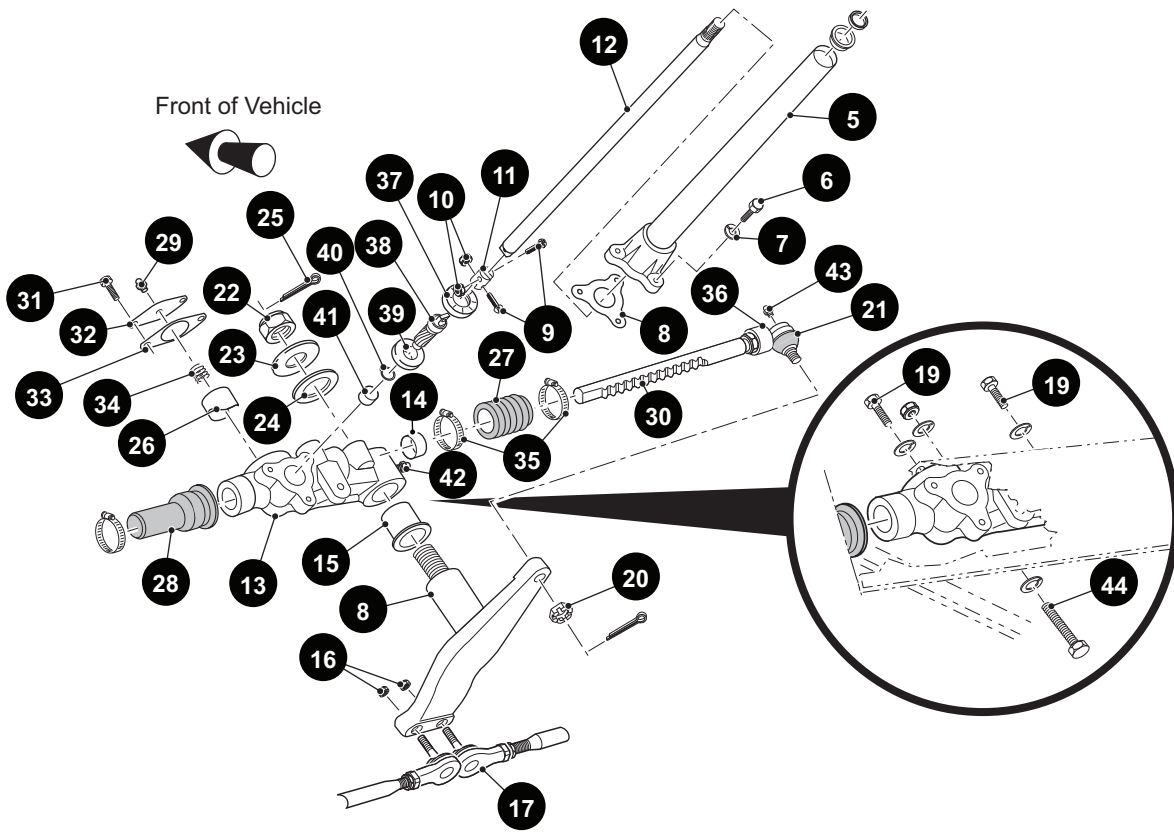

Figure 6 Steering Components
9. Inspect the four retaining tabs on the hub cover (5) for white stress lines. If stress lines are present, replace hub cover.
10. Install by carefully pressing the top two retaining tabs and then the bottom two retaining tabs into the matching slots in steering wheel (Ref Fig. 6).